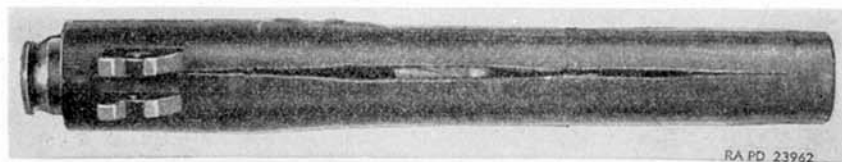
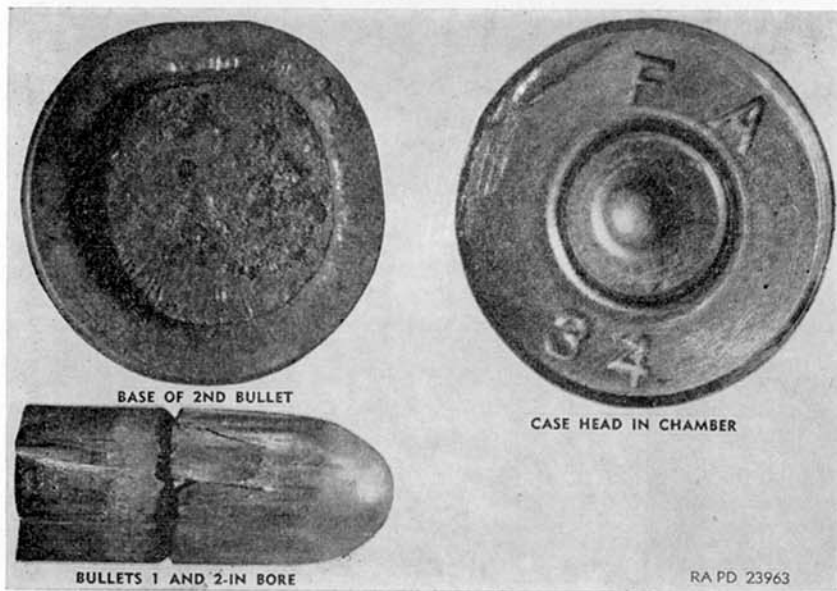

Figure 10. Damage caused by firing with bullet lodged in bore, cal..45 automatic pistol M1911.
Figure 11. Ammunition damaged by bore obstruction in cal..45 automatic pistol M1911.
- (2) Figure 10 pictures the damage caused by firing a normal round with a bullet in the bore. A bullet may lodge in the bore when fired from a cartridge containing damp powder, and some of the powder grains will be unburned. Figure 11 shows darkened, unburned powder grains adhering to the base of the lodged bullet. Observe the long split in the barrel and the two bullets recovered from the bore.
- (3) The powder charge in the cal..45 pistol cartridge sometimes creates insufficient power to expel the bullet from the barrel. The lodged bullet will obstruct the passage of the next round and blow up the barrel.